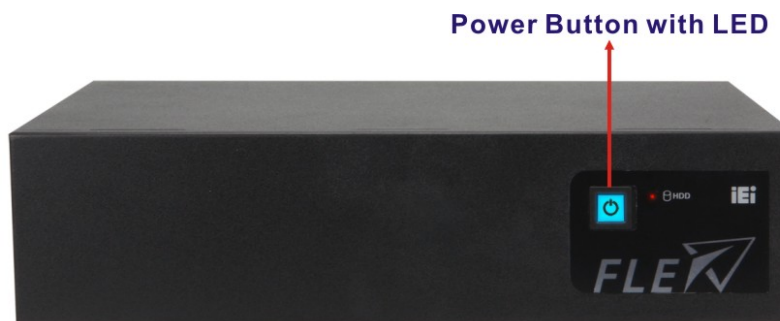

Figure 3-17: Power Button
Step 2: Short-press the power button on the front panel to power up the system. The power LED lights on in blue (**Figure 3-17**).